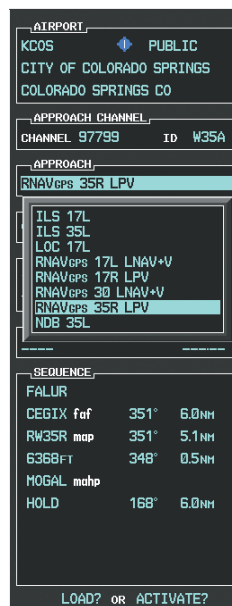

Figure 5-132 List of Available Approaches
c) Press the **ENT** Key. A list of available approaches for the destination airport is displayed as in Figure 5-132.
d) Turn either **FMS** Knob to select the LPV approach for 35R as shown in Figure 5-132.